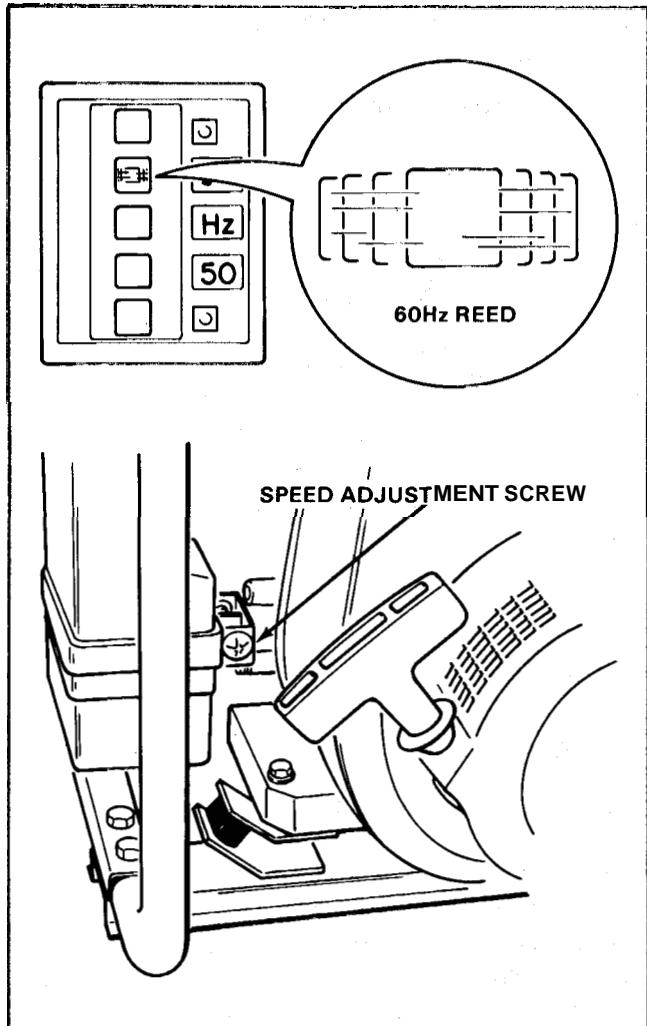

Figure 5
- With the engine at 3600 rpm the 60Hz reed on the front of the generator will resonate. (some models are not equipped with a frequency meter.) See Figure 5.